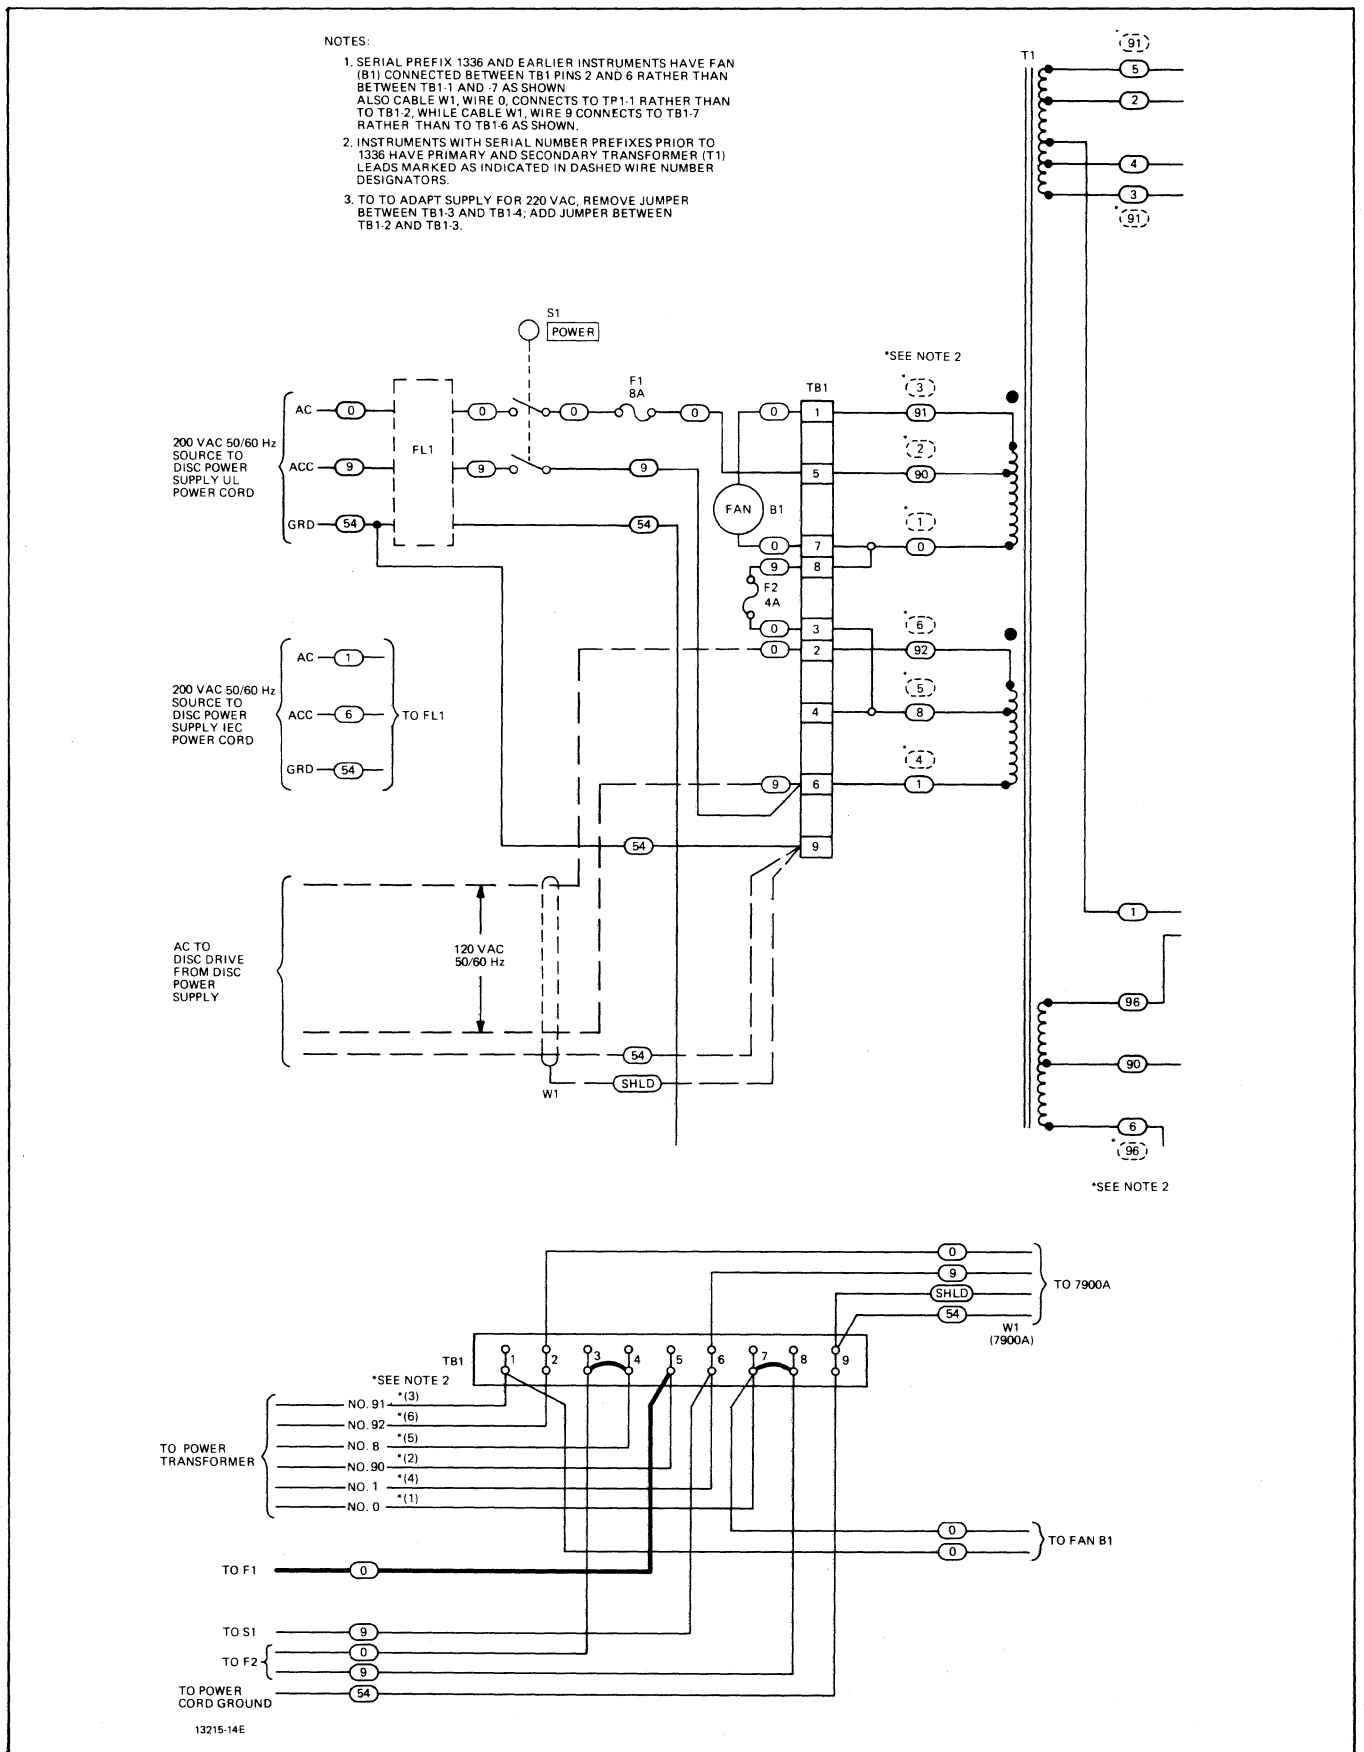

Figure 2-3. Power Supply Wiring for 200 Vac, 50/60 Hz
- 17 Change 34 in this appendix, figure 2-3.
- b. To adapt figure 2-3 to indicate wiring for 220 Vac; delete the jumper between TB1 pins 3 and 4 and add jumper between pins 2 and 3; delete the wire between TB1 pins 3 and 4 in the schematic and show the no. 6 wire connected to TB1 pins 2 and 3.